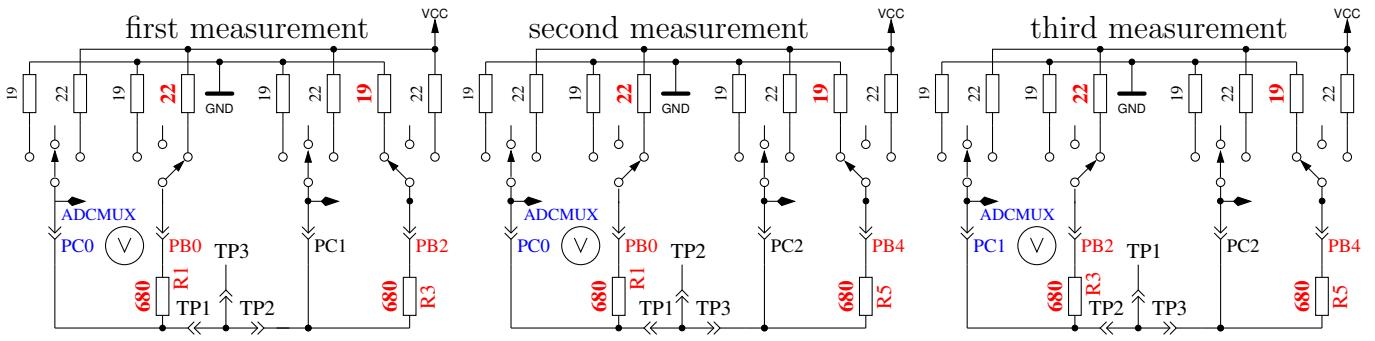

Figure 5.65. Comparison of 680Ω resistors
2. **Comparing of the 680Ω resistors.** In row 1 the cryptic text "+RL- 12 13 23" is shown. Meaning of this is as follows: The RL is the short form of Resistor Low meaning the 680Ω resistors. The 12 stand for: resistor at pin 1 is connected to VCC (+) and resistor at pin 2 is connected to GND (-). The result of this measurement is displayed in row 2 at the first place as difference to the theoretical value. In row 1 follows now a "13" which means, that the first connection of measurement 1 is still connected with 680Ω to VCC but that the resistor of pin 3 is connected to GND. The result is displayed in the middle place of row 2 as difference to the theoretical value. The last measurement of this test "23." means that now the resistor at pin 2 is connected to VCC (+) and the resistor of pin 3 is connected to GND. The result of measurement is displayed at the last place of LCR row 2 as difference to the theoretical value. Please remember, that the resolution of the ADC is about 4.88mV! The measurement situation is also shown in figure 5.65. The theoretical value with respect to the internal resistance of the pins should be: $\frac{5001 \cdot (19+680)}{(19+680+680+22)} = 2493$.